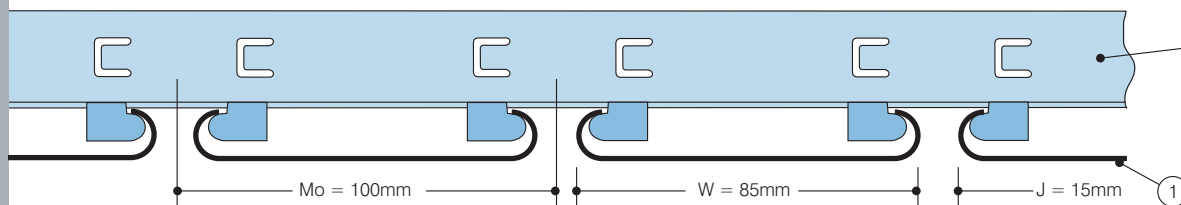
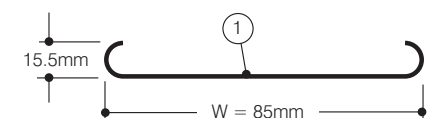

Fig.1 PREMULAM profile in cross section. scale 1:2
Fig.12 PREMULAM profile
Suspended from the structural soffit by adjustable hangers (3A) (Fig. 5) or (3B) (see rear page), Omega carriers (2i) (Figs. 1, 2 & 5) contain preformed tongues in their base over which PREMULAM profiles (1) are clipped to make a secure attachment, which, however, is capable of being disengaged by hand or tool.
PREMULAM round sided metal profiles (1) (Fig. 12) are fixed as shown to create demountable linear interior ceilings which are distinguished by their 15mm wide, 'softform', continuous open joints (Figs. 1 & 7). Manufactured from light gauge aluminium or mild steel strip, they can be supplied in plain (non perforated) metal or in either of two perforated forms shown on the rear page.